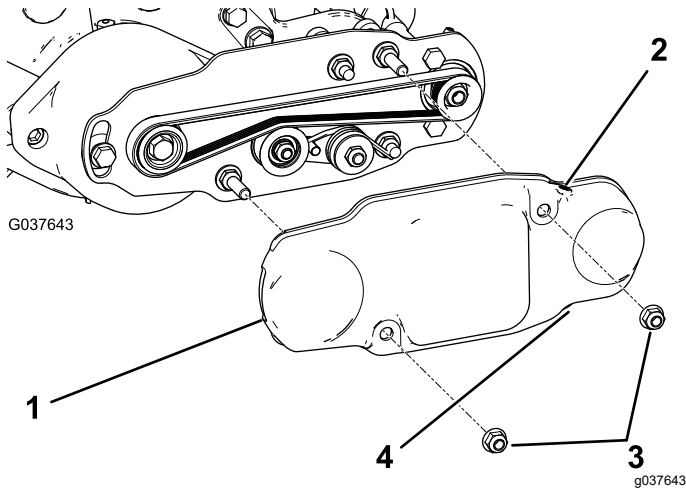

Figure 18
2. Slide the belt cover onto the mounting bolts and secure the cover with 2 flange nuts (Figure 18).
3. Ensure that the top setscrew is installed; remove and discard the bottom setscrew for drainage (Figure 18).